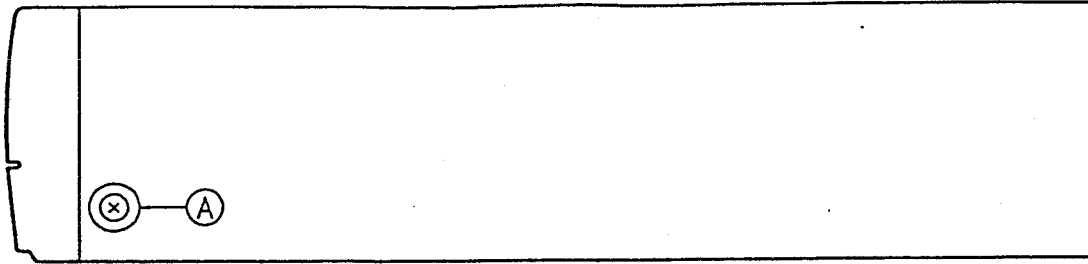

Figure 1
1. Remove 2 screws (A) from left and right sides of top cover. (See Fig. 1)